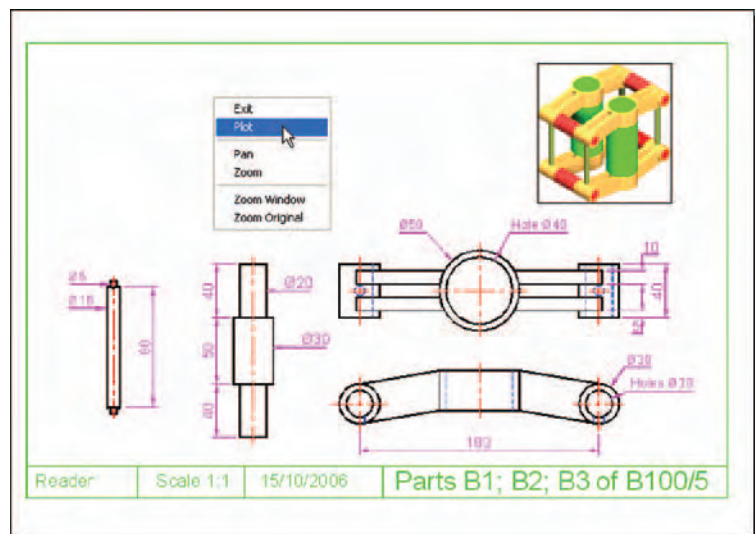

Fig. 19.9 Second example – printing/plotting
Second example – Printing/plotting (Fig. 19.9)
4. If satisfied with the preview (Fig. 19.9), *right-click* and in the menu which appears *click* the name **Plot**. The drawing plots.